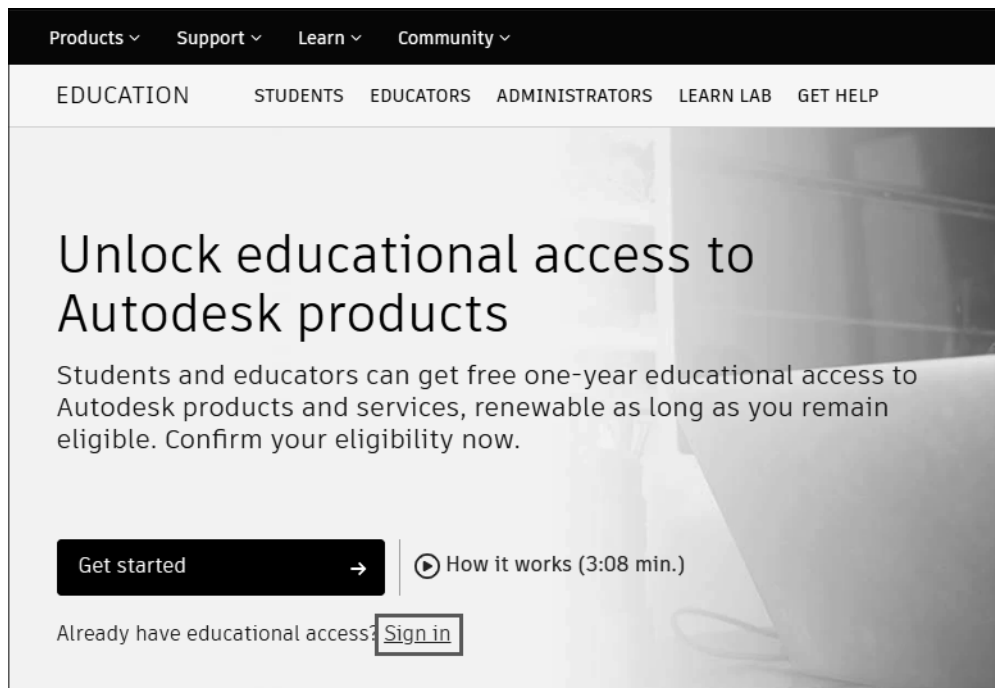

Figure-4. Educational sign in
- Sign in with your student account using the **Sign in** button next to **Already have educational access** text in the web page; refer to Figure-4. If you do not have the one then create it by using the **GET STARTED** button.